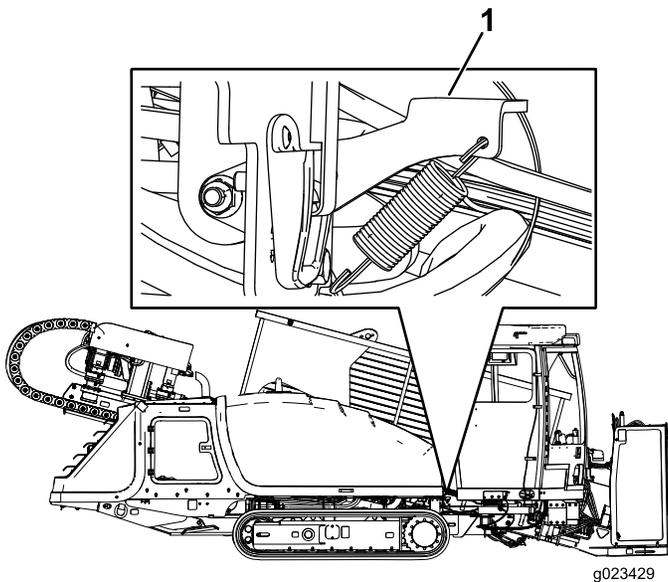
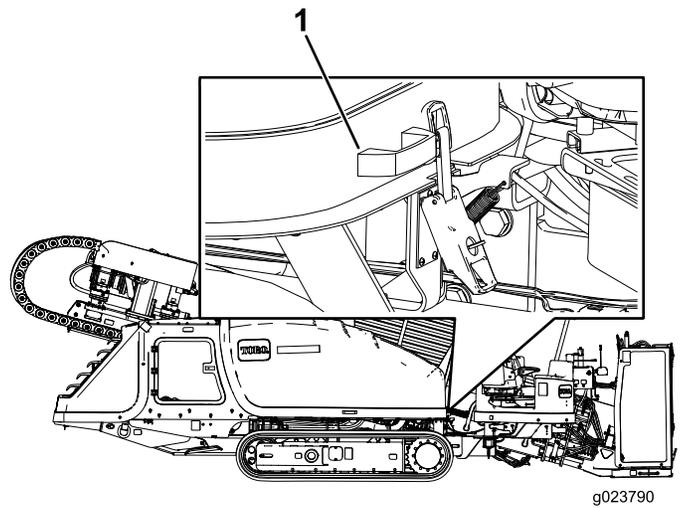

Figure 67
Figure 68
3. Pull up on the hood latch as shown in Figure 67.
4. Keep the hood latch (Figure 67) pulled up, and lift up on the handle as shown in Figure 68.